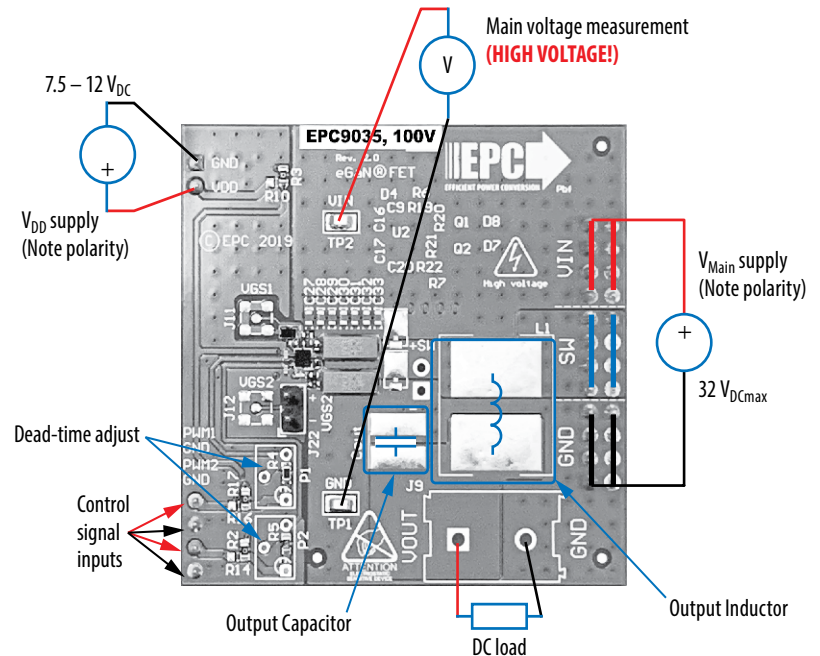
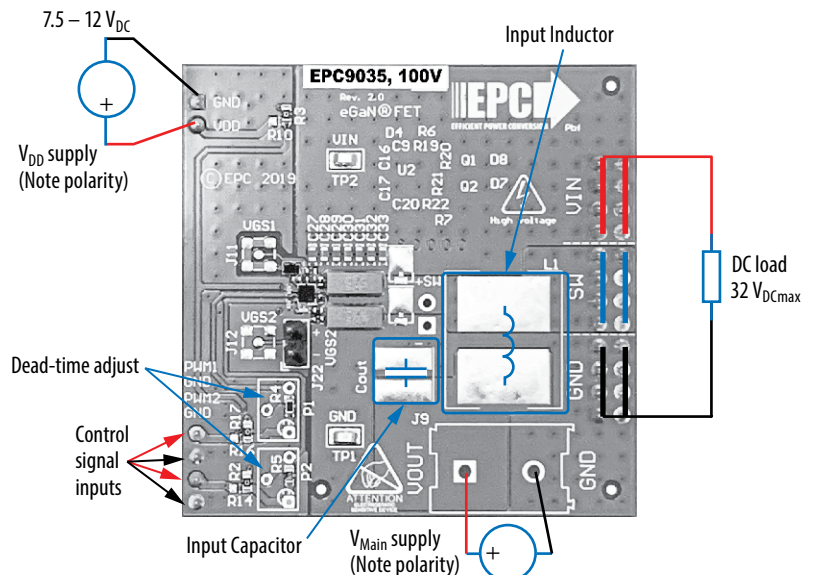

Figure 2: Buck configuration
Figure 3: Boost configuration
The half bridge development board EPC9035 is easy to set up as buck or boost converter. Refer to figure 2 for buck converter configuration and measurement setup, and figure 3 for boost converter setup, and follow the procedure below:
2. With power off, connect the switch node (SW) of the half bridge to your circuit as required (half bridge configuration). Or use the provided pads for inductor (L_1) and output capacitors (C_{OUT}), as shown in figure 2 with a DC load connected across V_{OUT} and GND.
1. The inductor (L_1) and input capacitors (labeled as C_{out}) can either be soldered onto the board, as shown in figure 3, or provided off board. Anti-parallel diodes can also be installed using the additional pads on the right side of the EPC2022 FETs.